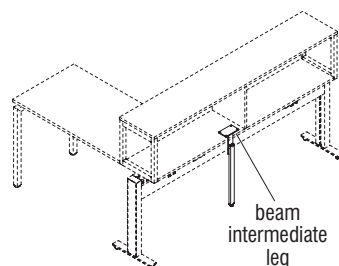

Figure 42
- All rails with cubbies, regardless of planning style require the use of an intermediate beam/rail support leg (PKLN) to ensure the beam doesn't deflect under the weight of the storage and its contents. The intermediate leg is not included with storage and must be specified separately. Reference "Beam Intermediate Leg Guidelines" on page 31 for more details (Figure 42).